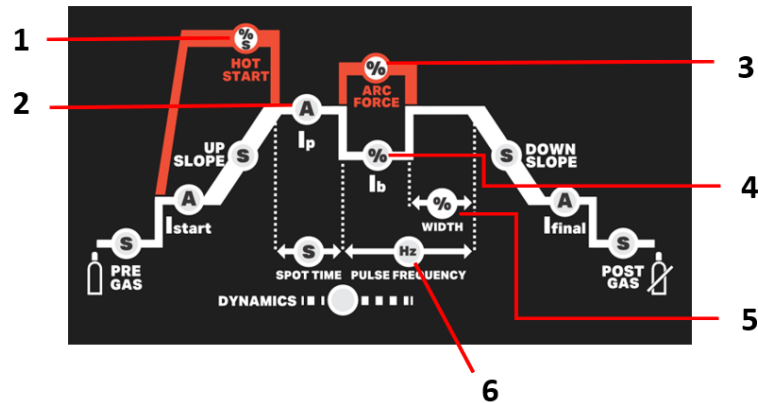

Fig. 2 – MMA parameters
(See items in Fig. 2)
- Adjust the current value to the diameter of the electrode (Fig.2 - 2), according to the following table, to adjust the machines according to the electrode to be used and start welding